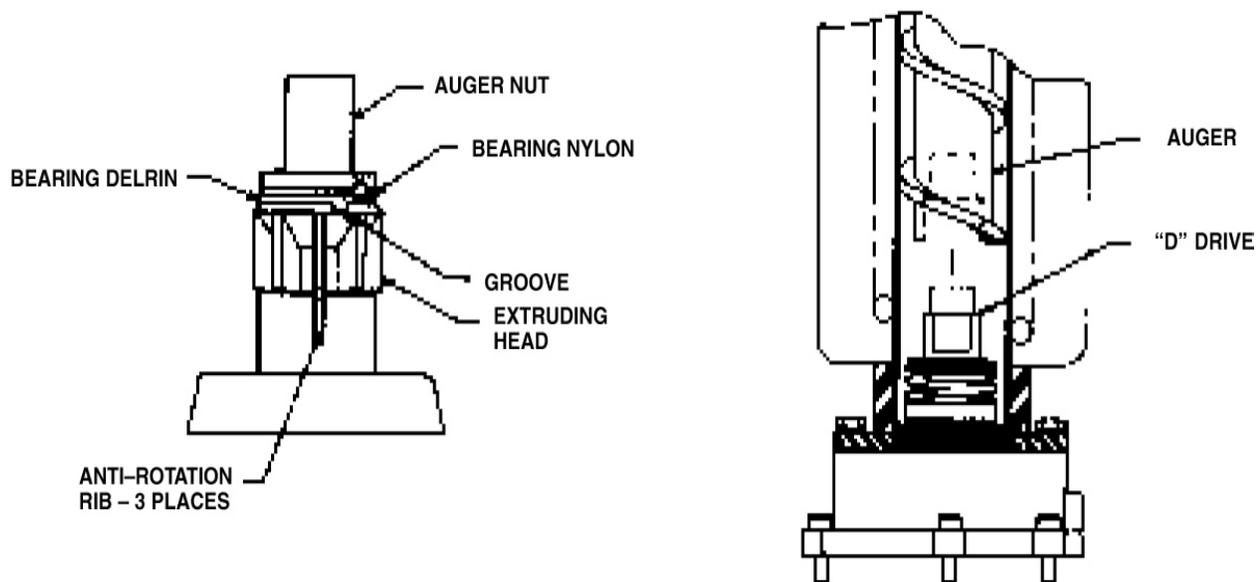

Figure 8. Auger And Extruding Head Removal
5. When replacing the auger assembly, make certain that both the auger engages the output shaft drive and the extruding head ribs engage the evaporator tube. (See Figure 8.)